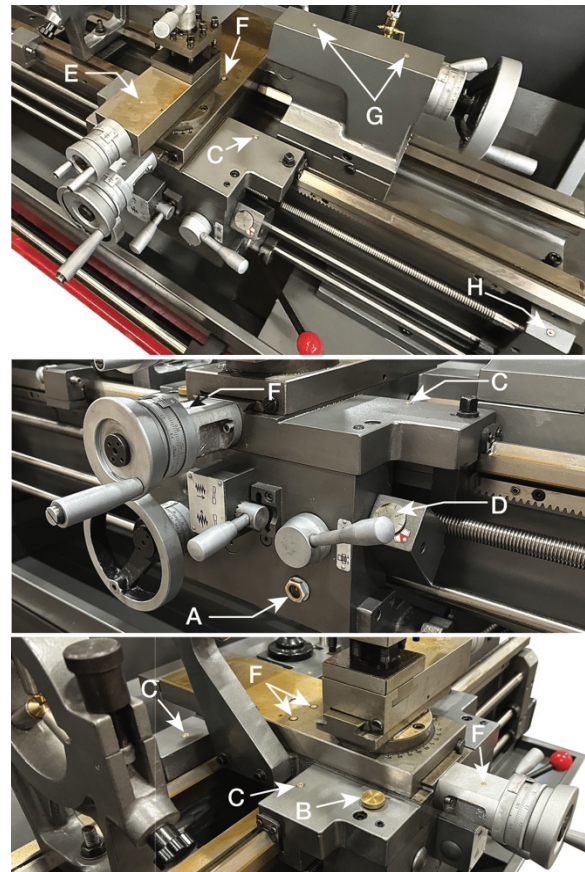

Figure 8-4
5. **Apron** - Oil must be up to indicator mark in oil level sight glass (A, Figure 8-4). Top off with Mobil DTE® Oil Heavy Medium. Fill by removing oil filling plug (B, Figure 8-4). Drain oil by removing drain plug located on the bottom of the apron. Make the first oil change
6. **Carriage** - Lubricate ball oilers on both sides of the carriage (C, Figure 8-4) once daily with Mobil DTE® Oil Heavy Medium.
7. **Threading Dial Indicator** - Lubricate ball oiler (D, Figure 8-4) once daily with Mobil DTE® Oil Heavy Medium.
8. **Compound Slide** - Lubricate ball oiler (E, Figure 8-4) once daily with Mobil DTE® Oil Heavy Medium.
9. **Longitudinal and Cross Slide** - Lubricate ball oilers (F, Figure 8-4) once daily with Mobil DTE® Oil Heavy Medium.
10. **Tailstock** - Lubricate two ball oilers (G, Figure 8-4) once daily with Mobil DTE® Oil Heavy Medium.
11. **Leadscrew/Feed Rod** - Lubricate two ball oilers once daily (H, Figure 8-4) with Mobil DTE® Oil Heavy Medium.